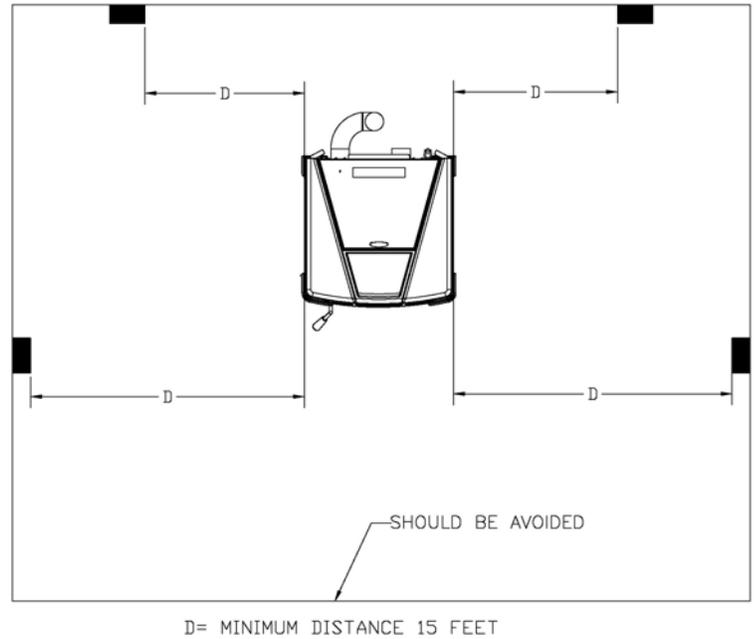

Figure 41
- If you are using a wireless wall thermostat or a hand held thermostatic remote control, you can locate the receiver behind the stove's back panel, on the right side, just below the terminal block. Most receivers are already equipped with quick-connect terminals. Simply unplug the PC board wires connected to the back of the terminal block and connect them directly with the receiver's terminals. Location of the thermostat is very important to obtain the best comfort and efficiency from you EUROZONE. The thermostat should be mounted 50 inch from the floor on a wall located 15 to 20 feet from the stove. You should avoid installing directly in front of the stove to avoid cycling.(See Figure 41)